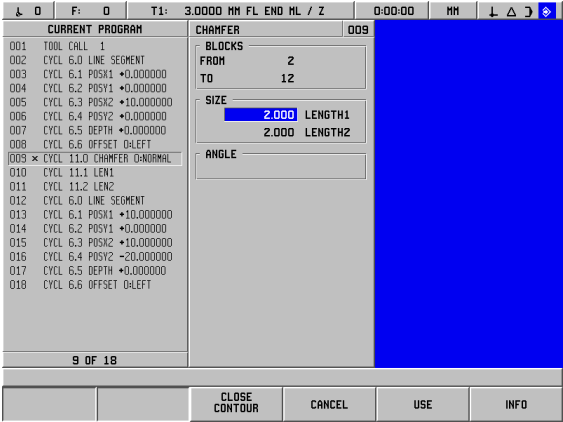

Fig. I.54 Input parameters for a chamfer
**Intersecting lines** – You can insert a chamfer between two intersecting lines that are adjacent in the program sequence. See Fig. I.54.